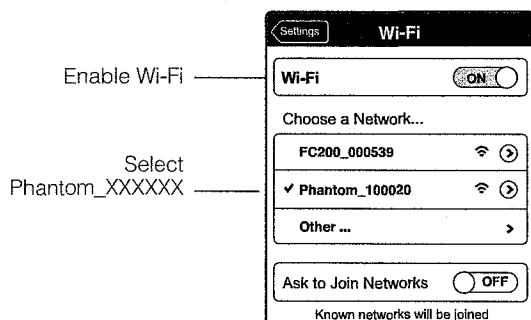

Figure 45
- (1) Power on the Remote Controller and the Range Extender.
- (2) Power on the Phantom 2 Vision+.
- (3) Enable the Wi-Fi on your mobile device; wait for about 30 seconds, and then select “Phantom_XXXXXX” from the Wi-Fi network list (Figure45).